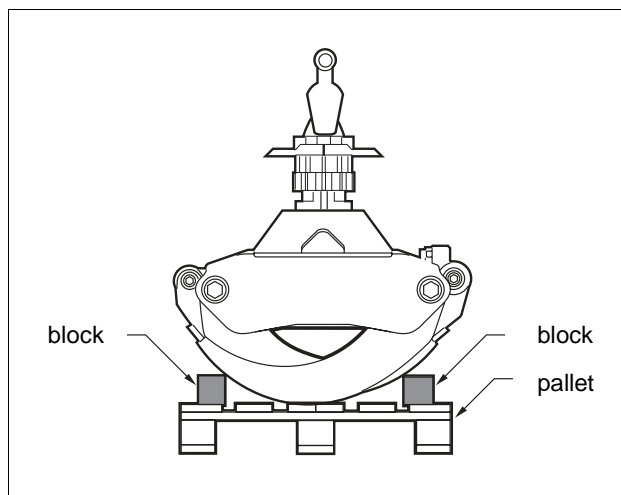

Fig. 40 Place the grapple on a firm base
2. Place the grapple on a firm base. *See Fig. 40.*